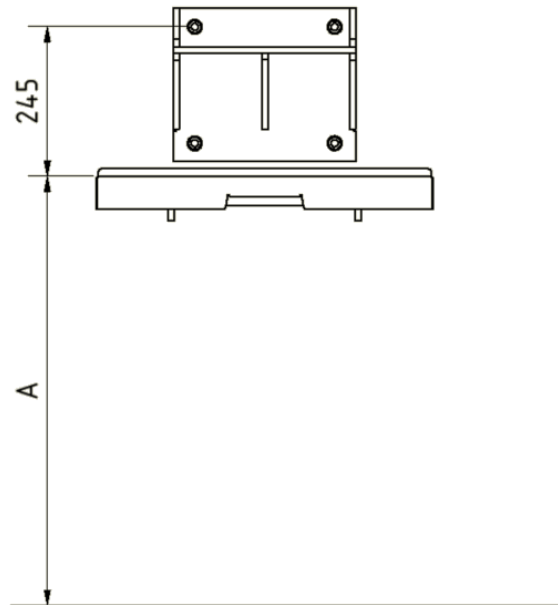

Figure 2: Positioning for desired mounting height
3. The mounting height (A) is the distance between the bearing plate and the finished floor (Figure 2). It can be tailored to the customer's needs. A mounting height (A) between 700 mm and 800 mm is recommended for many applications.